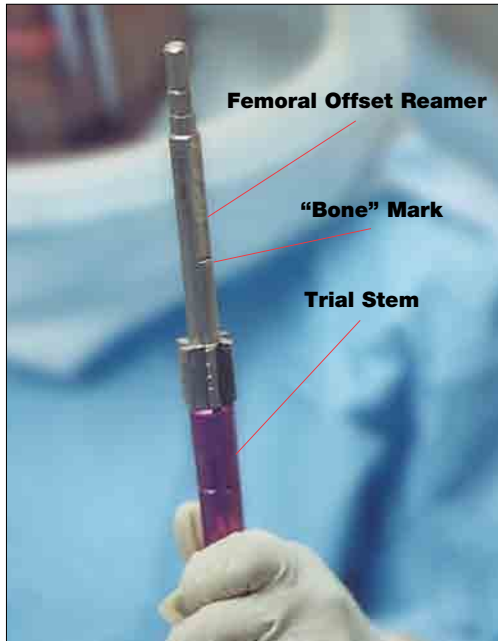

Figure 20
- Assemble stem trial to femoral offset reamer (Figure 20)